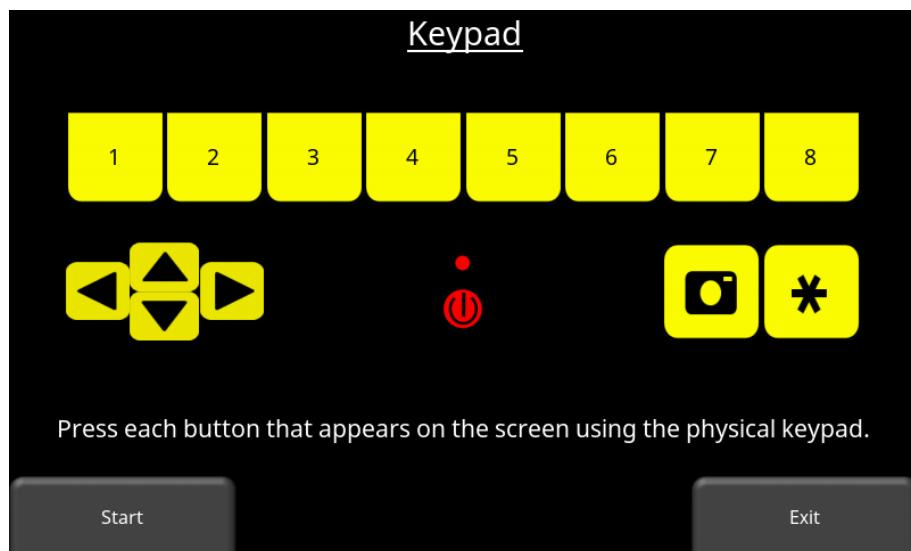

*Figure 5-27: Manually setting odometer calibration value*
- **Manual** – Pressing this button changes the bottom menu, allowing you to manually insert a calibration value. This can be done using the buttons along the bottom of the screen to increase or decrease the calibration value (Figure 5-27).